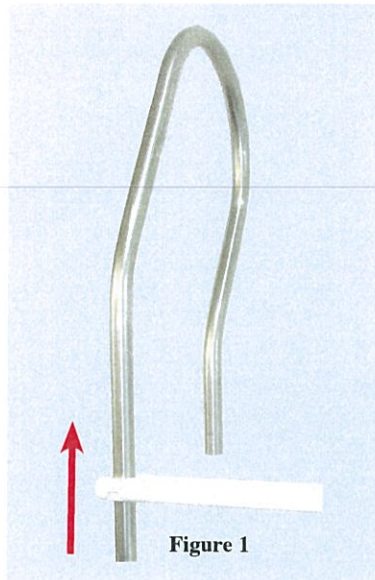

Figure 1
- Slide one of the four ladder steps (BS MIDSTEP) onto one of the stainless steel handrails (BS SSRAIL). Make sure that the step treads are facing up. (See figure 1)